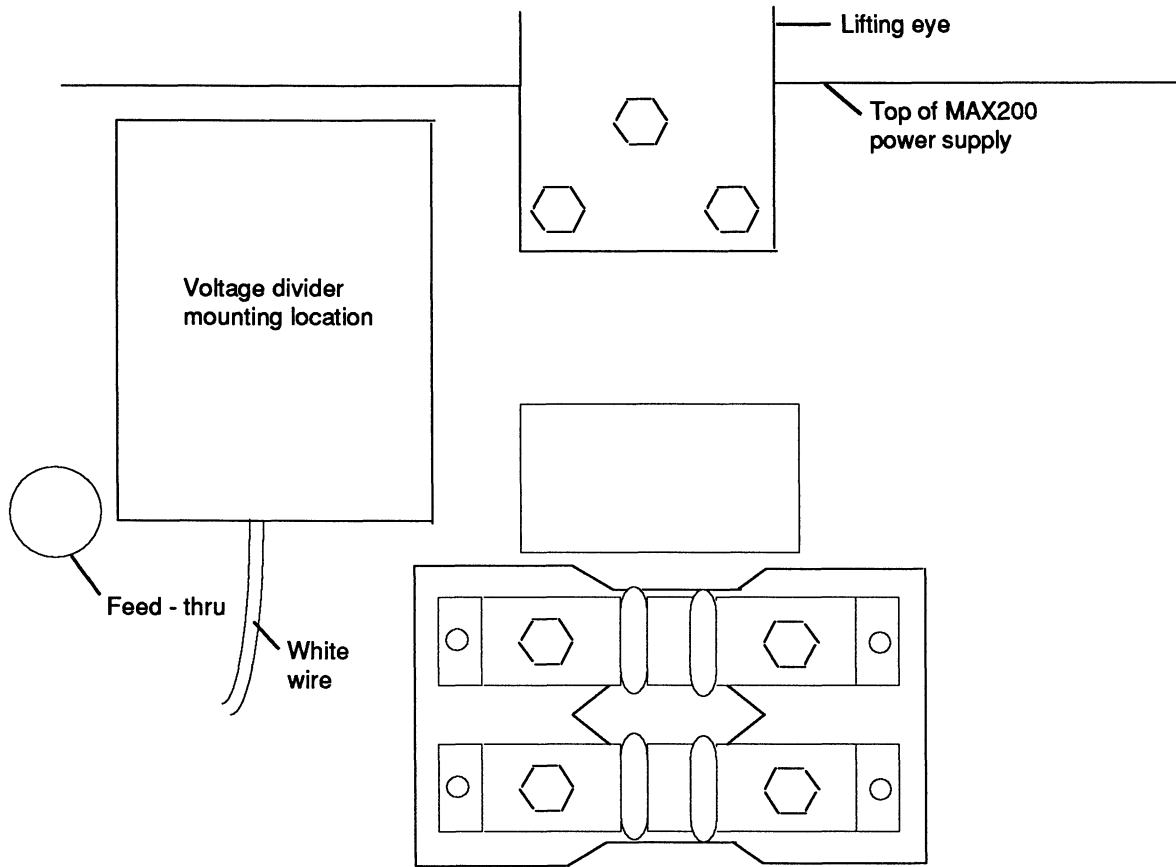
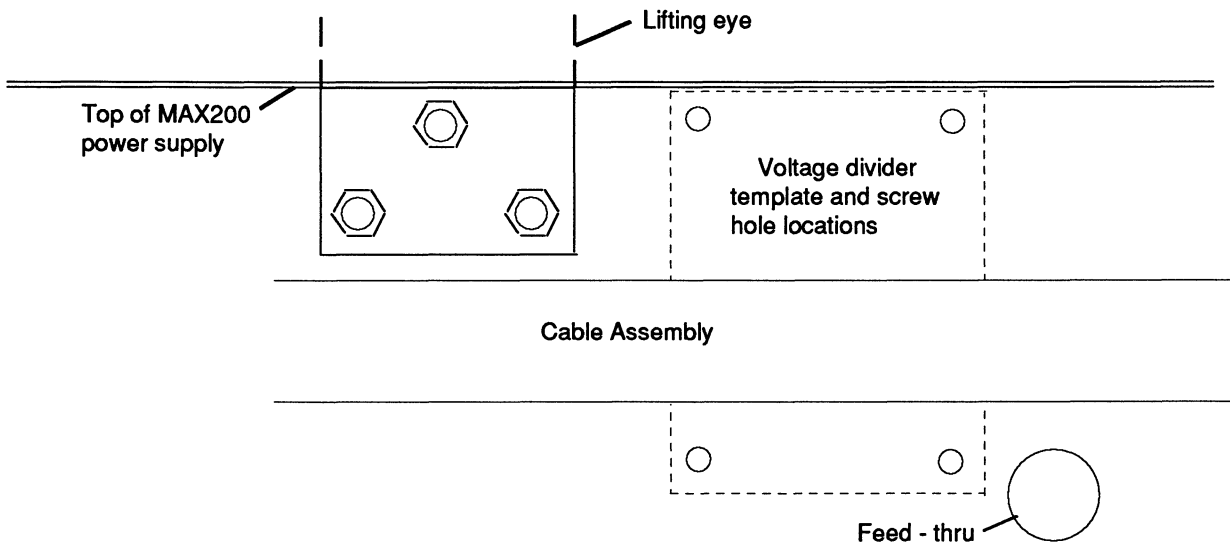

Figure 1 Voltage Divider Mounting Location - MAX200 Center Wall Left Rear
Figure 2 Voltage Divider Template Location - MAX200 Center Wall Right Rear
4. Place template approximately as shown in Figure 2.
8. Mount the voltage divider as shown in Figure 1 with the white wire facing down. Screw the voltage divider in place from the center wall right rear side (see Figure 2).
4. Thread the other end of the interface cable through this strain relief and make connections to TB4, TB3 and voltage divider as shown in the Figure 4 wiring diagram. Note: Push wires 42 and 70 through the center wall feed-thru to get to voltage divider. See Figure 2 for location of feed-thru.